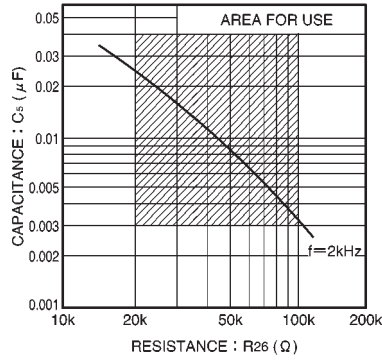

Fig. 7 Value of external components for oscillator (V_{CC} = 5.0V)
(3) The external resistor R_{26} connected to the oscillator (pin 30) should be in the range of 20k Ω and 100k Ω . If it is outside this range, oscillation may stop due to the influence of temperature (see Fig. 7).